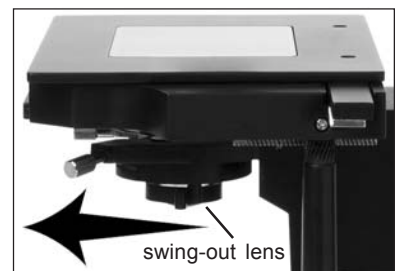

Figure 50
4. The transmitted illumination Abbe condenser features a swing-in lens located at the bottom of the condenser (figure 50). This lens should be swung into the light path when using the 5X objective only. This is necessary to obtain the correct Numerical Aperture required for the low powered objective. In addition you will need to fully open the aperture iris in order to prevent vignetting and leave the condenser height the same as when originally setup using the 10X objective.